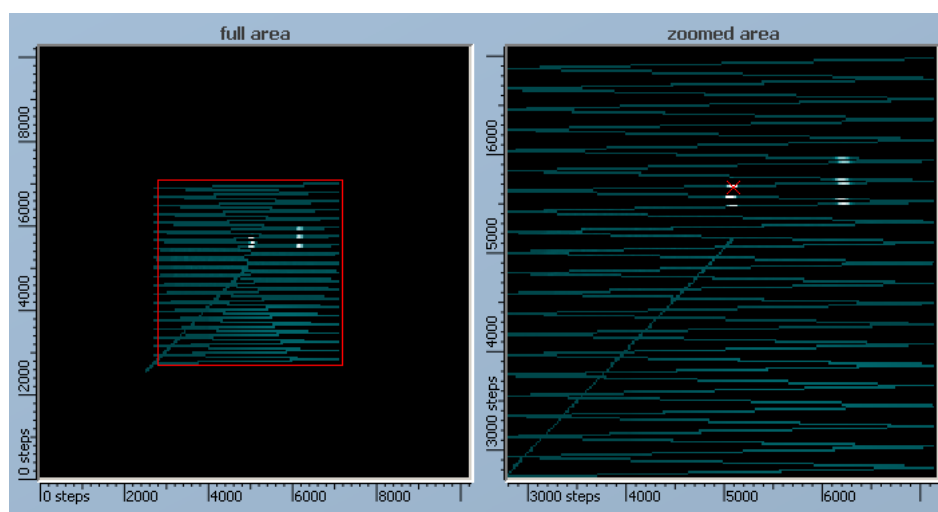

Figure 7.3.3 Multilever probe adjustment
Select area on the full area window by left mouse button as shown in the figure 7.3.3.
- Press the Scan X button to start scanning the selected area. The image of your cantilever's chip and levers appears in the zoomed area window (fig. 7.3.3 right image).